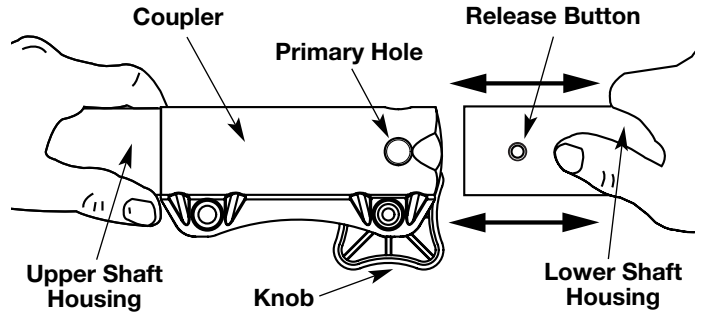

Fig. 2
3. While firmly holding the upper shaft housing, pull the lawn edger attachment out of the coupler (Fig. 2).
3. While firmly holding the add-on, push it straight into the coupler (Fig. 2).
**CAUTION:** Lock the release button in the primary hole (Fig. 2) and securely tighten the knob before operating this unit.